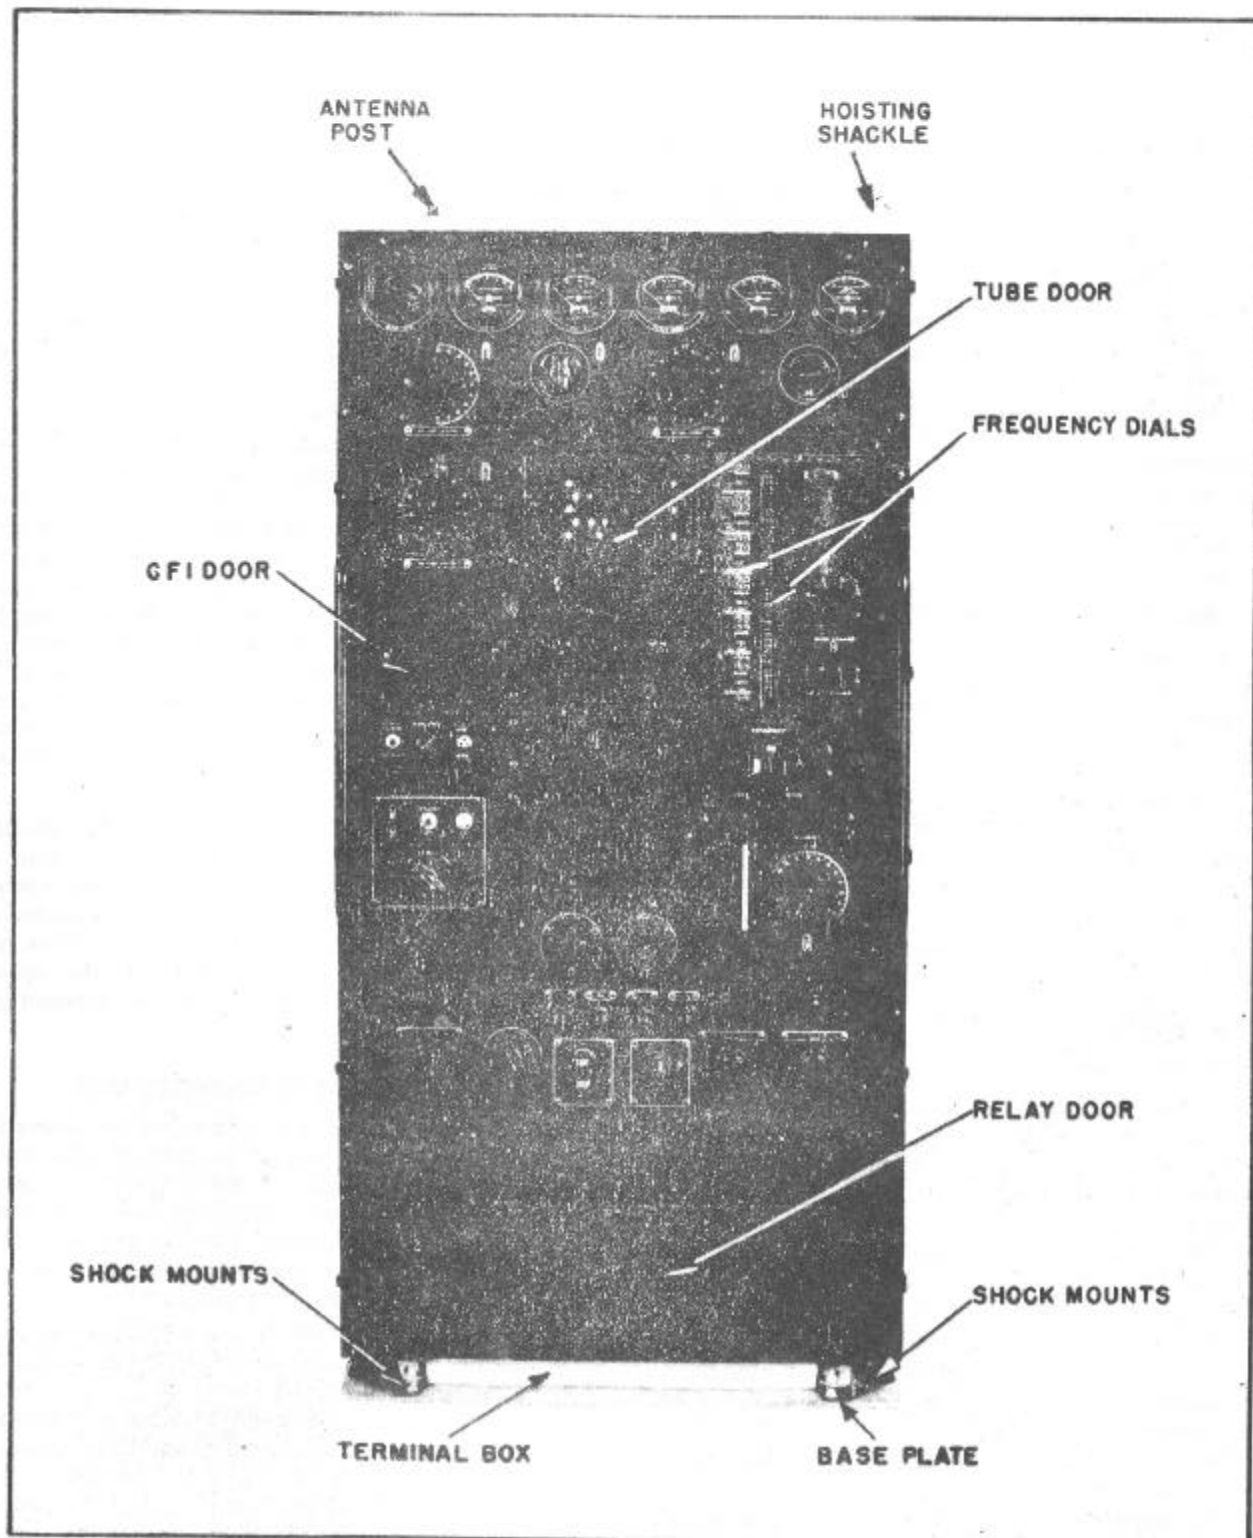
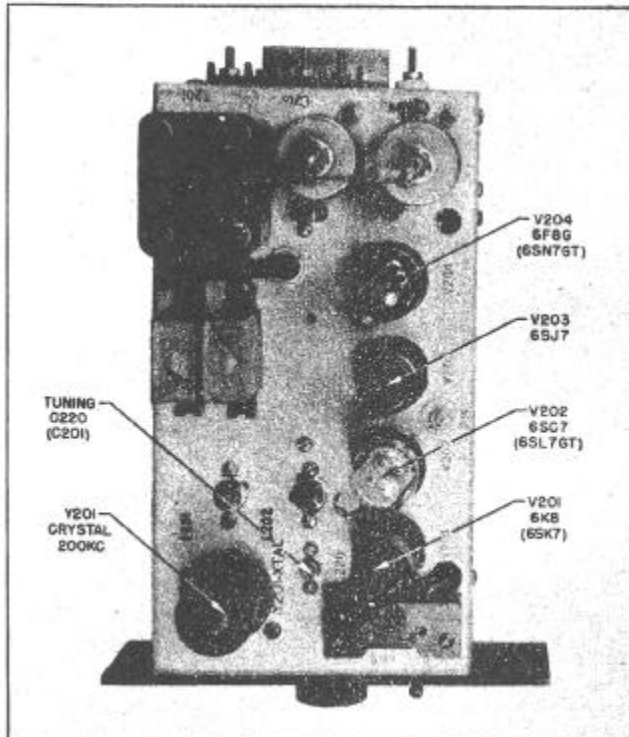

Figure 1-2—Model TCK Transmitter Equipment
Figure 1-6—Crystal Frequency Indicator Unit
**a. General.**—The d-c operated transmitter shown in Fig. 1-2 has all of the general construction features of the transmitters supplied with all Model TCK equipments. Slight changes occur in the location of front panel controls on the a-c operated units and an additional unit for coupling to a transmission line is mounted on top of the Model TCK-4 and -6 transmitters.
**b. Circuit Orientation.**—The power amplifier (P-A), the work circuit and the intermediate power amplifier (I-P-A) components are located at the center of the transmitter unit. The tubes for these r-f circuits are accessible through the "tube door" shown in Fig. 1-2. The tuning of the transmitter is accomplished by the Uni-Control knob located to the right of the tube door. This knob is used to control the main tuning condenser gang. Immediately below the frequency dials is located the master oscillator (M-O) unit, the components of which are assembled into a temperature-controlled box. The crystal frequency indicator (C-F-I) unit consists of a chassis which is mounted on a deck behind the CFI door. The controls for the unit are brought out to the front panel. Behind the relay door at the bottom of the front panel, is mounted the Modulator unit. This is a single chassis bolted to the bottom deck of the transmitter. Just inside the relay door and in front of the modulator is the external connection terminal board. All leads from the motor-generator or rectifier, control circuits, and remote control circuits connect into the transmitter at this board. The antenna loading coil and tuning capacitor are in the top section of the radio transmitter to the left of the P-A stage.
**g. Crystal Frequency Indicator.**—The CFI Unit is built on a chassis similar to that employed for the modulator unit, as shown in Fig. 1-6. It mounts directly on the center deck of the transmitter and is located to the extreme left of the Uni-Control dial. Tubes are accessible for replacement through the CFI service door shown in Fig. 1-2.